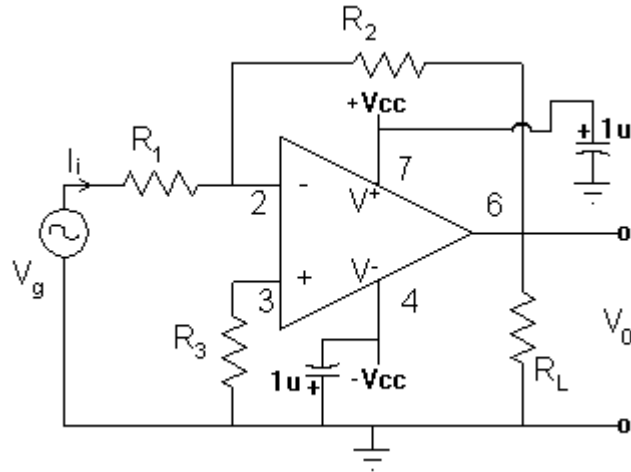

Fig 8-5 Inverting Amplifier
3. For the Ideal Inverting Amplifier in Part II (Figure 8-5), find equations for  $R_i$  and the gain ( $A_v = V_o / V_g$ ) of the amplifier in terms of the circuit components. Design an amplifier with a gain of -10 and an input resistance  $V_g/I_g = 10k\Omega$ . Let  $R_3 = R_1$ . Solve for  $R_1, R_2$ , and  $R_3$ . (30 points) (Enter the resistor values below and in section II-1 on the Data Sheet.)
6. Use Pspice to simulate the output of the Inverting amplifier of figure 8-5 with the resistor values you calculated in Prelab question 3,  $R_L = 3.9 \text{ k}\Omega$  and let  $V_g = 1000 \text{ Hz } 1V_{pp}$  sine wave. The 741 op amp is part uA741.
1. Construct the circuit in Figure 8-5.  $R_i = 10\text{k}\Omega$  Ideal gain  $V_o/V_g = -10$